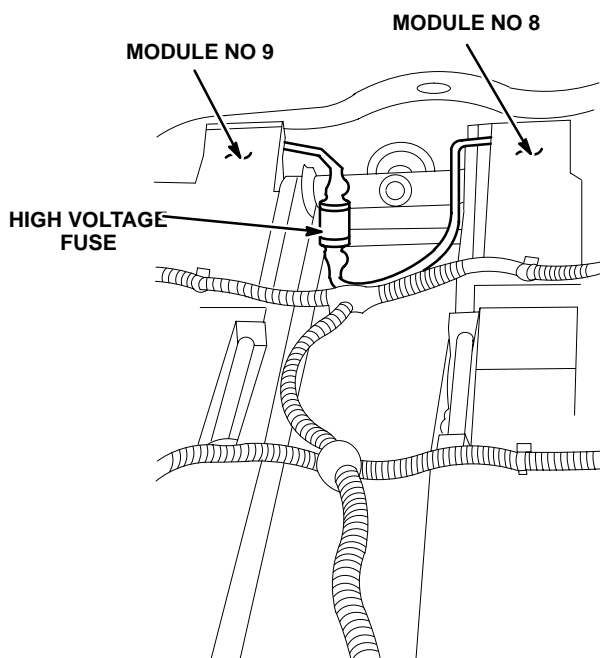

Fig. 11 High Voltage Fuse
- (5) Remove battery tub cover bolts (18).
- (6) Remove battery tub cover.
- (7) Disconnect high voltage fuse at modules #8 and #9 (Fig. 11).